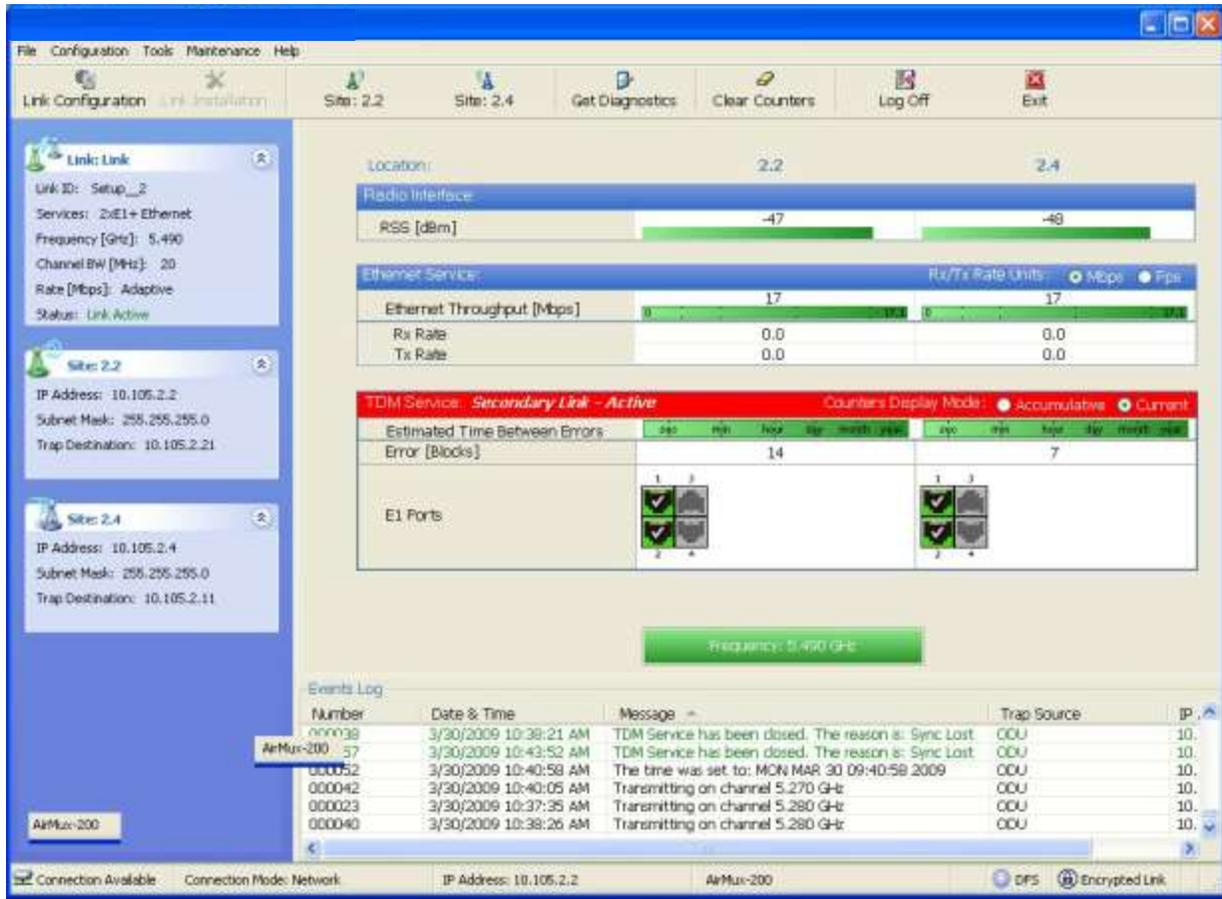

Figure H-11. Secondary Link Operating after the Switchover to Secondary
*Note* After a few moments the TDM icons in Figure H-11 become green.